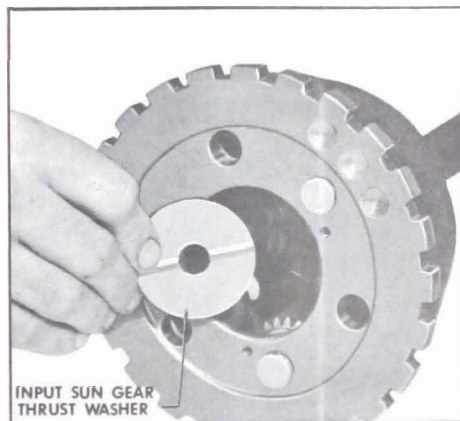

Figure 5-252
8. Remove input sun gear thrust washer. See Figure 5-252.